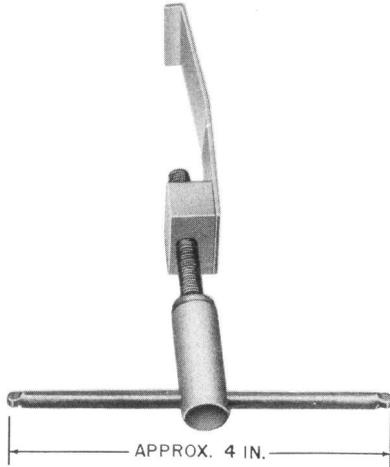

Fig. 12—668A Coil Remover Tool
2.14 668A: The 668A (A&M only) coil remover tool (Fig. 12) is used in removing coils of 286-, 287-, and 288-type relays. The 1012A tool kit is no longer available as a complete kit. Order this tool for replacement purposes only if the office is equipped with the 1012A tool kit.